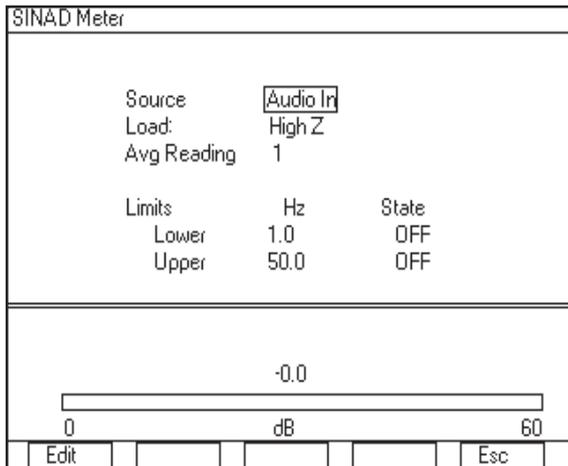

Figure 16 - SINAD Meter screen
4. Move the cursor to the SINAD meter. Press the Zoom softkey and the screen shown in Figure 16 should appear. Make sure that the Source is Audio In and the Avg Reading is 1. Press the Esc softkey to return.